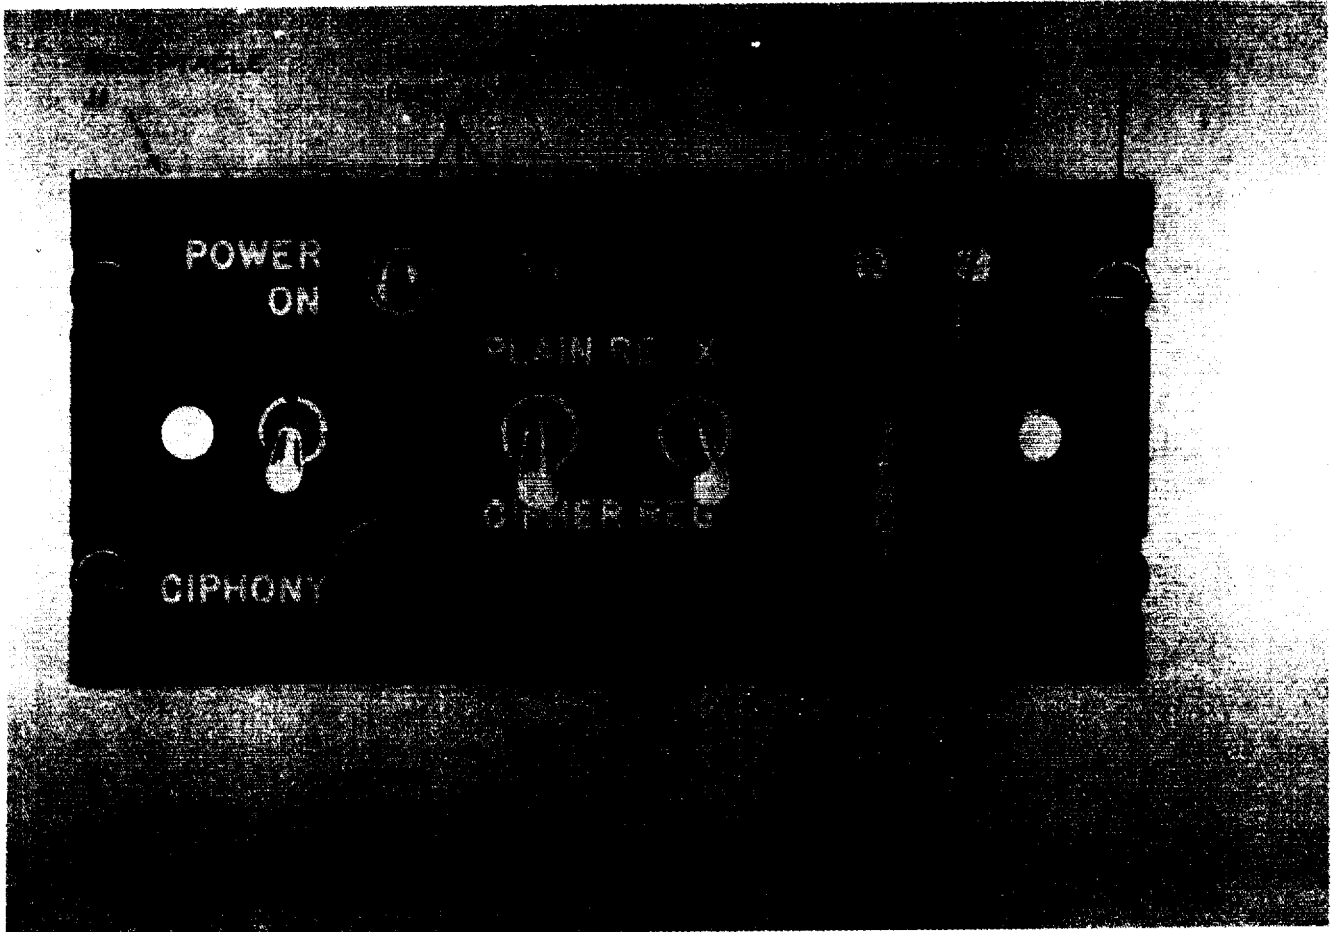

Figure 1-1. Control Indicator.
This manual describes Control Indicator C-8157/ARC (fig. 1-1, 1-2) and Mounting MT-3802/ARC (fig. 1-3). The manual provides instructions for operation, organisational, direct support, and general support maintenance, and functioning of the equipment.
a. Control Indicator C-8157/ARC (fig. 1-1, 1-2) is used as auxiliary equipment to provide control of the TSEC/KY-28 Cipher voice security equipment (CX mode) operation.
(fig. 1-1 and 1-2)
(fig. 1-1, 1-2)
(1) Apply power to AN/ARC-54 (or equivalent).
(2) Set the Control Indicator C-8157/ARC POWER ON switch (CB-1) to the up (ON) position (fig. 1-1, 1-2).
(3) Assure POWER ON indicator lamp L1 (amber is illuminated).
(4) Set the intercom system of the aircraft or radio console to accept. AN/ARC-54 (fm radio) communications. Refer to appropriate equipment or aircraft configuration manual for details. Caution: The POWER ON switch must be in the ON position, regardless of the mode of operation, whenever the C-8157/ARC is installed in the aircraft.
(5) Insure that Cipher/Plain locking plate is in the desired position.
(1) Set the PLAIN-CIPHER switch SW-1 to the PLAIN up position (fig. 1-1, 1-2). This may be secured in the Plain position by installation of the locking plate to prevent accidental depression to the CIPHER position by the operator. PLAIN indicator lamp L2 (red) should illuminate.
(2) Set RE-X/REG switch SW-2 to the REG (down) position.
(3) Press the appropriate press-to-talk switch located in the aircraft or radio console.
(4) Speak into the microphone to transmit. Release the press-to-talk switch to receive.
(1) Set POWER ON switch CB-1 (fig. 1-1, 1-2) to the off (down) position.
(2) Perform the stopping procedure for Radio Set AN/ARC-54 (or equivalent) in accordance with the appropriate equipment and Aircraft Configuration manual.
(1) Lift the cover of the ZEROIZE switch SW-3 (fig. 1-1, 1-2). Set ZEROIZE switch SW-3 to the up (on) position.